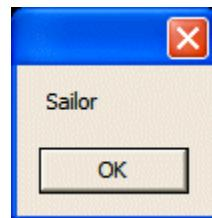

Figure 8-13. Displaying the fourth argument.
- 5) Click the **OK** button to dismiss this *MsgBox()*. The script now displays the fourth argument as illustrated in Figure 8-13.